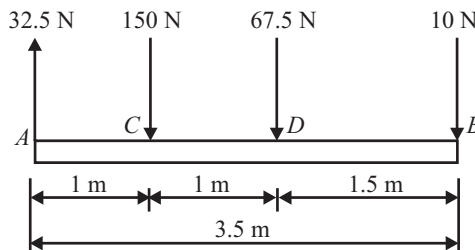

Fig. 7.44
Q. 39: A system of parallel forces is acting on a rigid bar as shown in Fig. 7.44. Reduce this system to